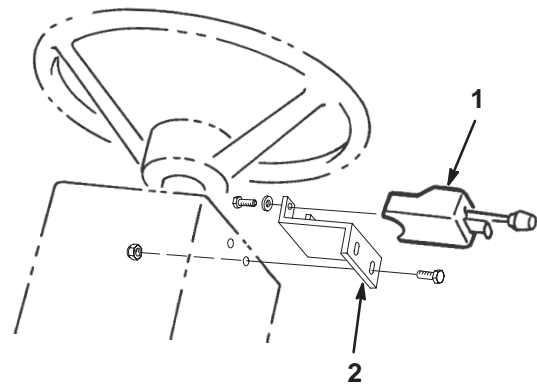
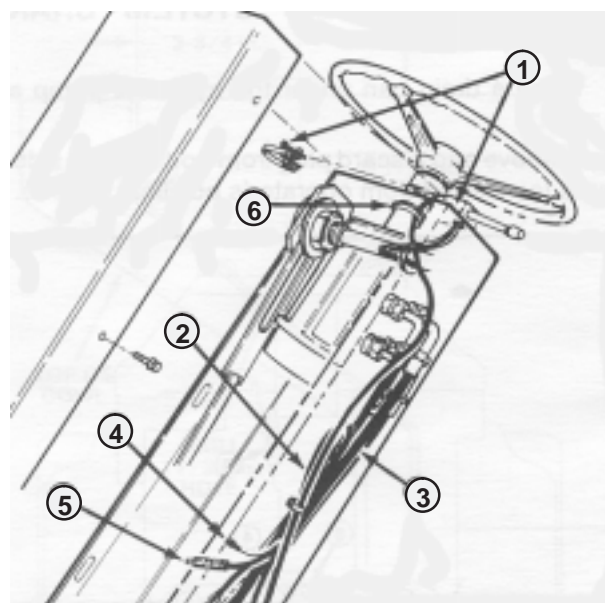

Figure 11
Figure 12
5. Insert signal controller cables through opening in steering tower cover. Install cover to steering tower with (4) screws previously removed.
6. Mount signal controller to mounting bracket with (2) filister head screws and washers, positioning as shown in figure 11
7. Secure mounting bracket to steering tower with (2) screws and nuts (Fig. 11). Proceed to step 10.
8. Insert signal controller cables through opening in steering tower cover. Install cover to steering tower with (4) screws previously removed.
9. Position signal controller on left side of steering column. Install clamp on right side and tighten, securing controller to column (Fig. 12).